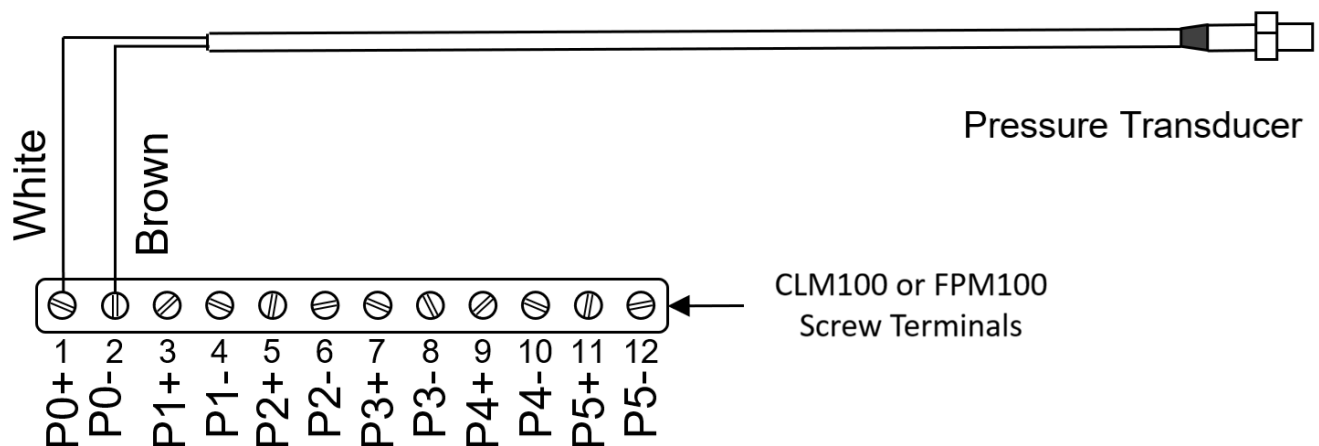

Figure 1 – Pressure Transducer Connection Diagram
Please follow these instructions to connect any of the PT-0-1.5PSI-01, PT-0-3PSI-01, PT-0-5PSI-01, or PT-0-10PSI-01 pressure transducers to the NMEA 2000® network via a Maretron CLM100 (Current Loop Monitor) or an FPM100 (Fluid Pressure Module). The wiring diagram appears in Figure 1 below. The diagram shows a connection to channel #0, but connections to other channels are similar.
3. Connect the two wires of the pressure transducer to a free monitoring channel. Connect the white wire from the pressure transducer to the positive (+) terminal of the channel and connect the brown wire from the pressure transducer to the negative (-) terminal of the channel. The example in Figure 1 shows the pressure transducer connected to switch channel 0 with the white wire connected to "P0+", and the brown wire connected to "P0-". Pressure transducers of "Gauge" type allow atmospheric pressure to the sensor through the connecting cable. **Take care to not allow the end of the cable with the tinned wire leads to be exposed to moisture, or the sensor may become damaged due to corrosion.** If the area where the end of the cable is located might have moisture present, the use of 1) a waterproof junction box with cable glands and a PTFE vent or 2) a desiccant cartridge is highly recommended. Running the cable through a cable gland will not affect its ability to allow atmospheric pressure through the cable into the sensor.